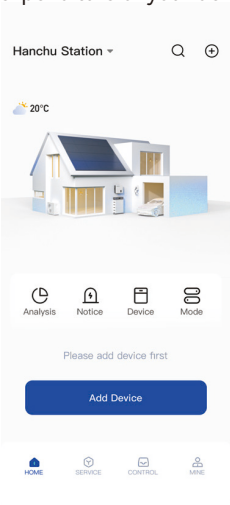

Fig. 4
- Please tap the "Add Device" button , as shown in Fig. 4. Then you can directly turn to **b.Network configuration**.